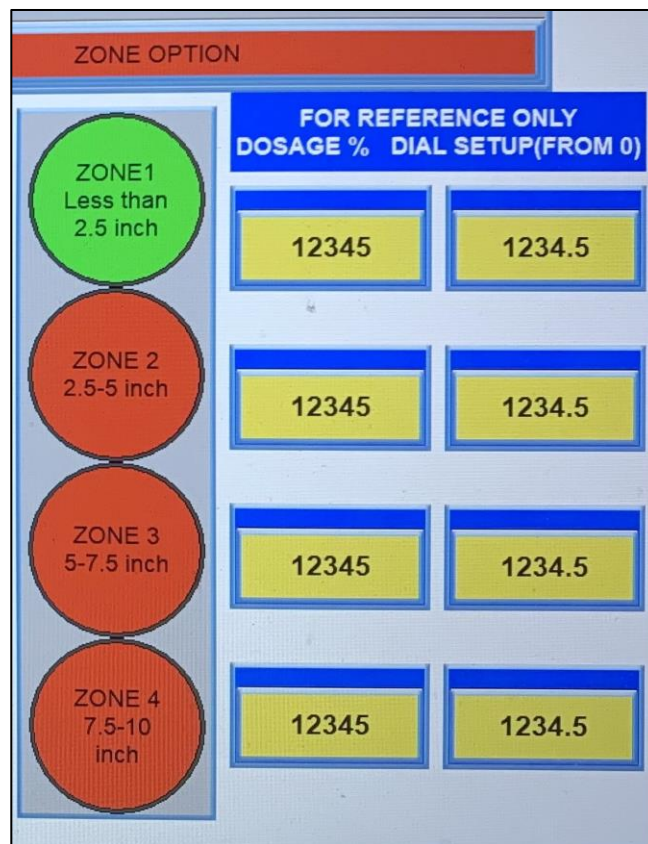

Figure 5: Dosing Screen – ZONE OPTION
5.2. Access the menu shown in figure 5 by selecting ZONE OPTION, located directly next to SLIDE OPTION under CHOOSE BUTTON